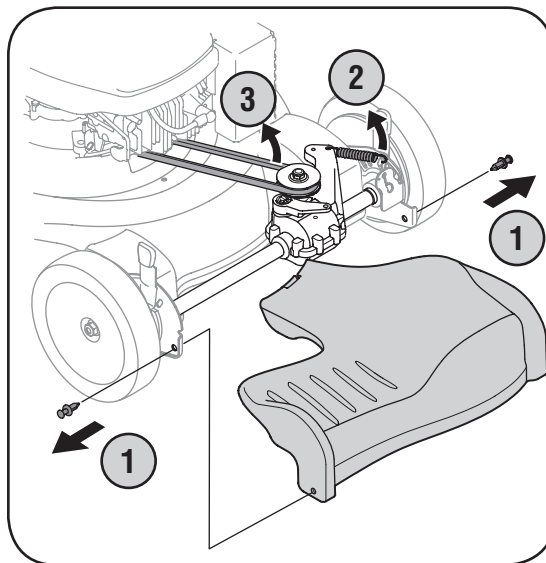

Figure 5-3
1. Remove the front drive cover by sliding off the two plastic rivets on each side of the cover with a screwdriver. See Figure 5-3.
2. Disconnect belt tension spring from transmission. See Figure 5-3.